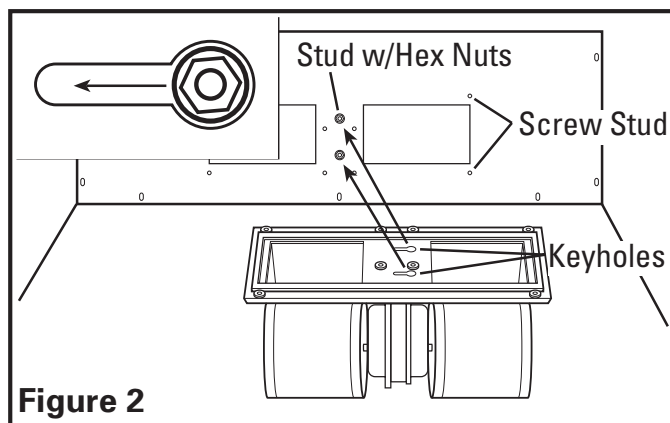

Figure 2
1. Lift blower up into the hood canopy and slide the keyhole slots in the blower mounting flange over the two studs of the hood. Slide the blower into place and tighten the hex nuts on the mounting stud while lining up the 8 holes in the blower mounting flange to the 8 screw studs of the hood (**Figure 2**).
2. Lift blower up into the hood canopy and slide the keyhole slots in the blower mounting flange over the two studs of the hood. Slide the blower into place and tighten the hex nuts on the mounting stud while lining up the 8 holes in the blower mounting flange to the 8 screw studs of the hood (**Figure 2**).